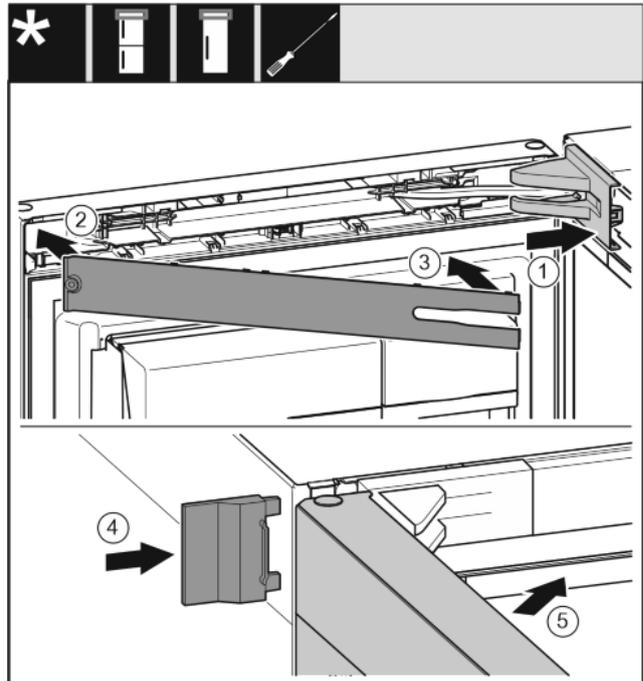

Fig. 40
- ▶ Position the bearing bracket and latch it in place. If necessary push it apart carefully. Fig. 40 (1)
- ▶ Position the panel. Fig. 40 (2)
- ▶ Swing in the panel and latch it into place. Fig. 40 (3)
- ▶ Slide on the outer cover. Fig. 40 (4)
- ▶ Close the upper door. Fig. 40 (5)